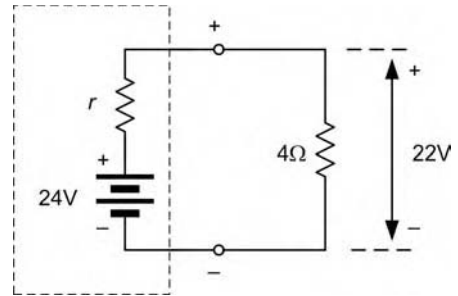

Figure 5.46
10. Determine the value of r in Figure 5.46.